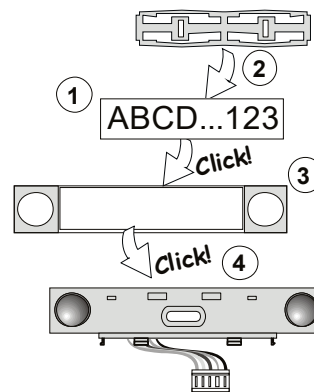

Figure 3: Insertion of a label into a control segment
- When batteries are inserted, the yellow backlit activation button (3) starts to light permanently which indicates that the module has not been enrolled to the system yet.
- Press the backlit activation button (3) – the module is thus enrolled and the yellow LED indicator goes off (this can take a few sec). An enrolment signal can also be sent by inserting the batteries.
- When you have completed installation, insert descriptive labels behind the segment transparent covers and close them, see figure 3. Label printing is a part of the F-Link software (**Devices** window, at the module position – **Internal settings**).